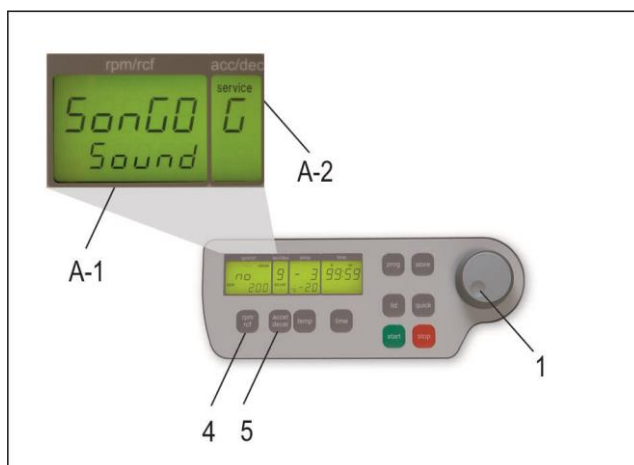

Figure 7
Proceed as illustrated, under point 1.8.1, to enter this program mode, press the key, "accel/decel" (5). In the display, "accel/decel" (A-2) flashes the word, "service". Select the letter, "G" with the adjustable knob (1). As a result, appearing in the display, "rpm/rcf" (A-1) the word, "SonGo/Sound". After pressing the key „rpm/rcf“ (4), you can select a song with the adjusting knob (1). (see Figure 7).